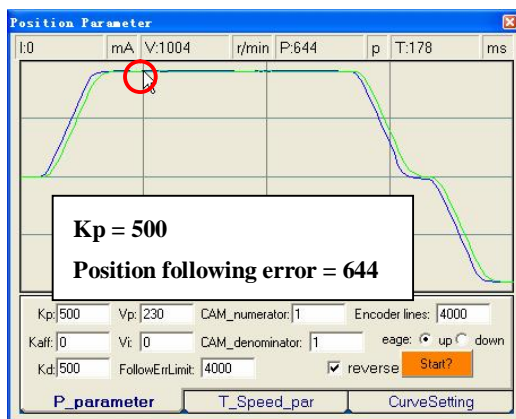

Figure 6-29: Increase Kp to 500 for quick response
Step 3: Increase **Kp** to maximize the system stiffness until motor noise/vibration begins, following the same way as **Vp**. See figure 6-29, 6-30, 6-31 and 6-32. The motor shaft or load is stiff enough at standstill when we increase **Kp** to 1800 and the motor noise/vibration can be accepted.